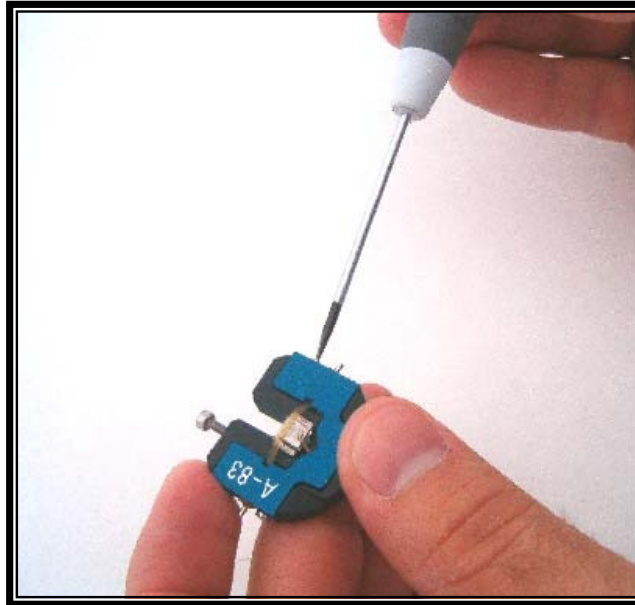

Fig. 2.24: Releasing the top part of the cantilever holder
1. Using the screwdriver, loosen the four screws in the cantilever holder to release the top part (blue one) as shown in Fig.2.24. Notice that it is not necessary to unscrew them entirely.